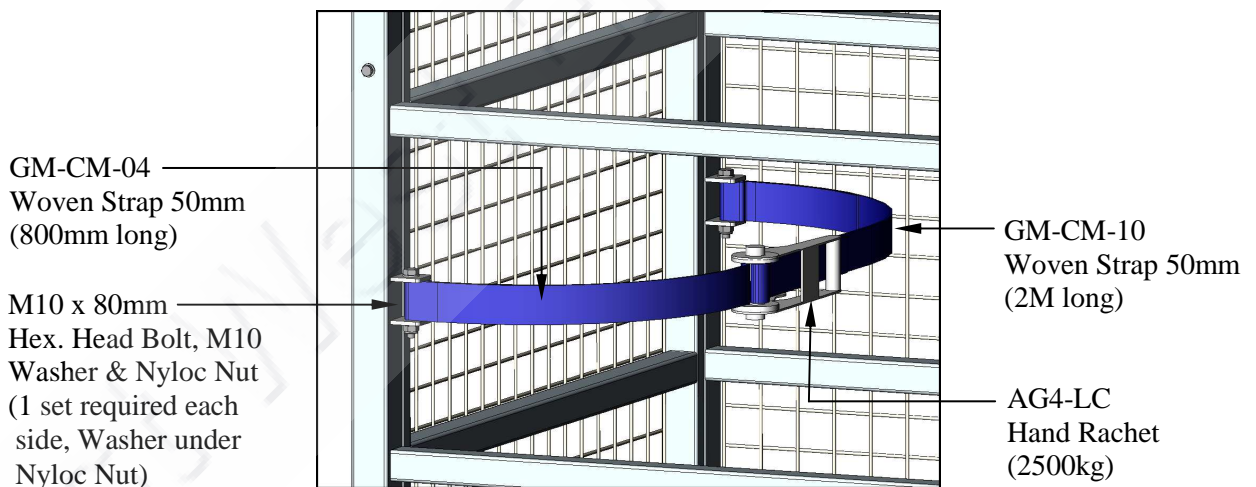

Figure 1.10
- L) Both Woven Straps (Items 8 & 9), and Hand Ratchet (Item 10) have been supplied already assembled together. Secure each end of the Straps to the Bushes inside the Cage using one (1) M10 x 80mm long Hex. Head Grade 8.8 Bolt (Item 15), M10 Nyloc Nut (Item 16) and M10 Flat Washer (Item 17 – under the Bolt head) as shown in Figure 1.10 above. The Bolts to be passed through the loop in the Straps with the Bolt head at the top of the Bush.